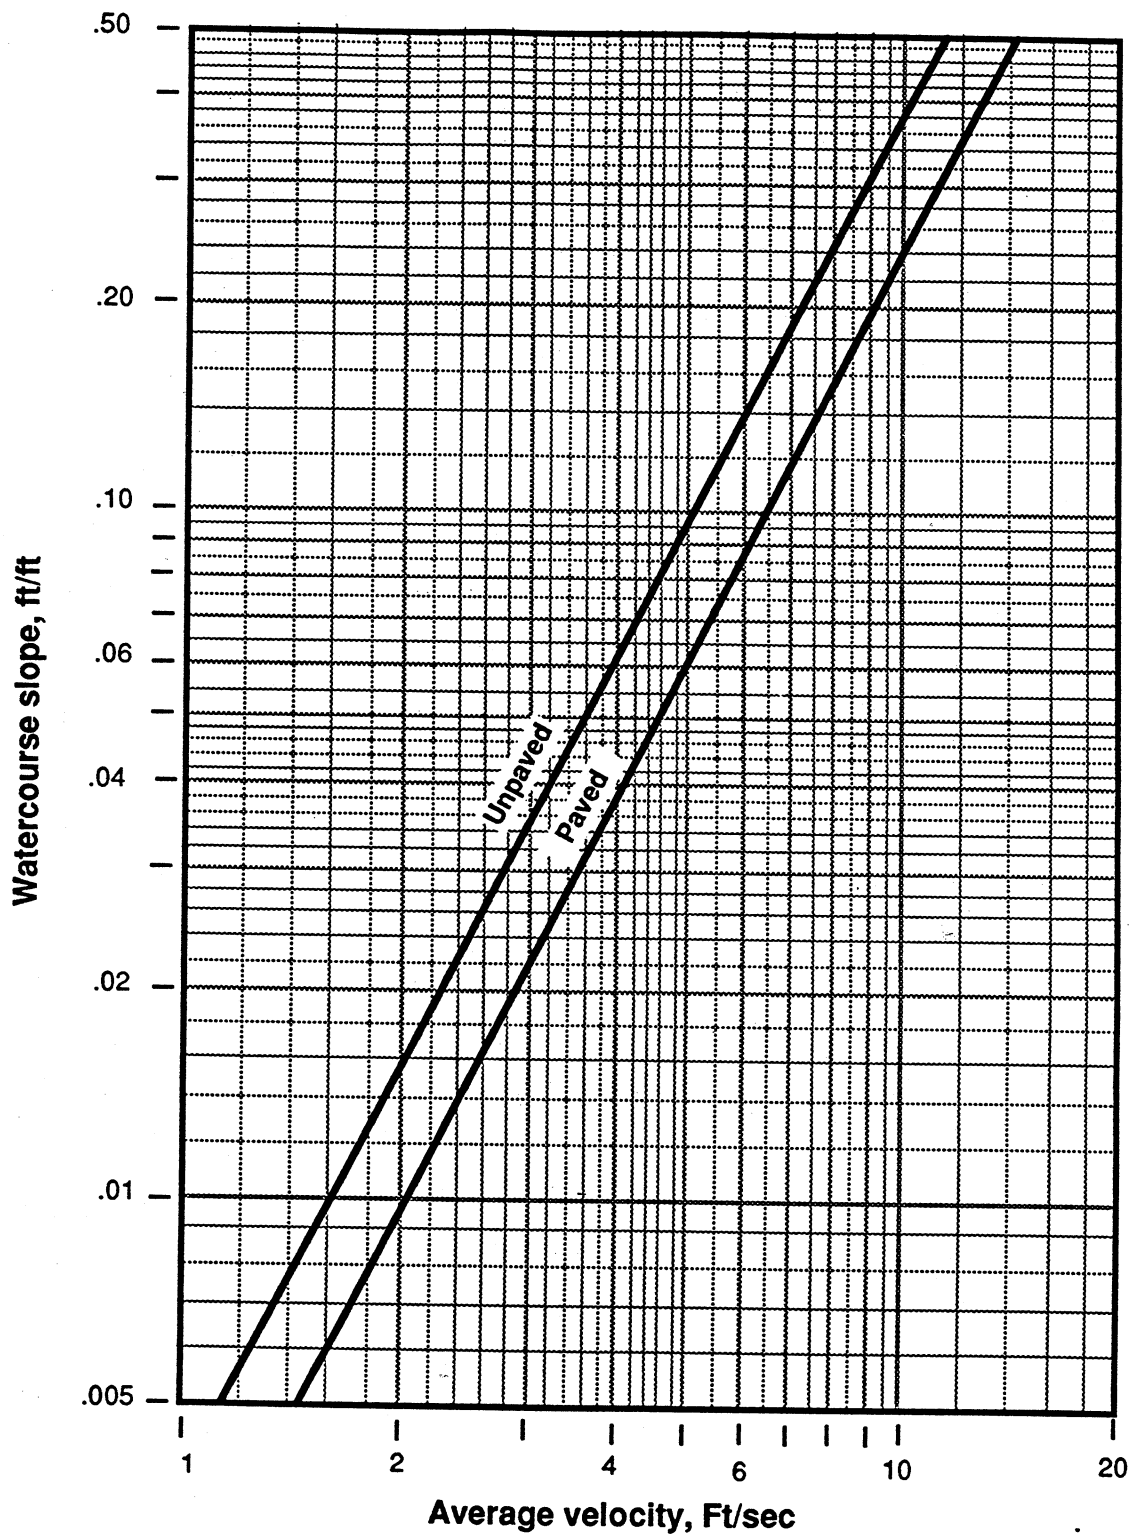

Figure 3-1 Average velocities for estimating travel time for shallow concentrated flow.
10. Average velocity, V (figure 3-1)ft / s